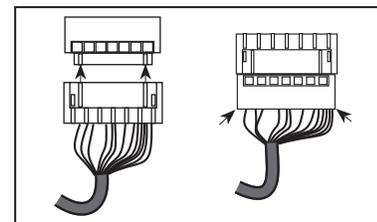

Figure 6B
- 6. Attach cable assembly to the inside escutcheon PC board by lining up notches on top of cable connector to slots on PCB connector (Fig. 6B).